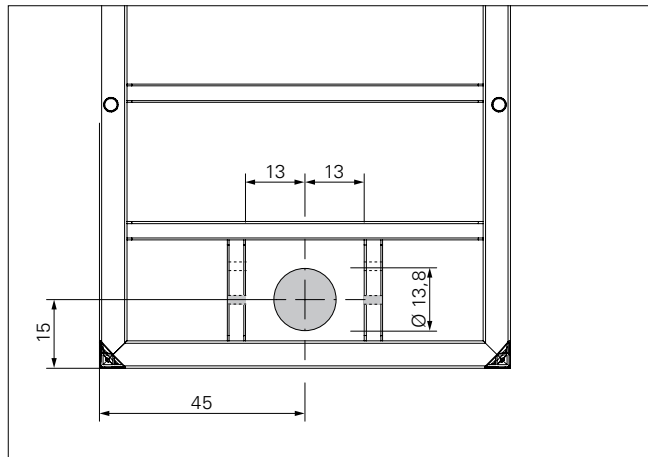

Fig. A.01
1. Mark the drilled hole pattern according to Fig. A.01 - A.03.